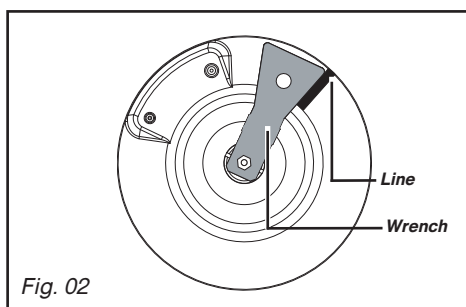

Fig. 02
– **Connection with a flexible rubber hose** reinforced **with screw-on mechanical connectors** (compliant with the XP D 36-112 standard) whose service life is 10 years (Fig. 02).
– Draw a line on the burner plate using a pencil at the place indicated (Fig. 02).